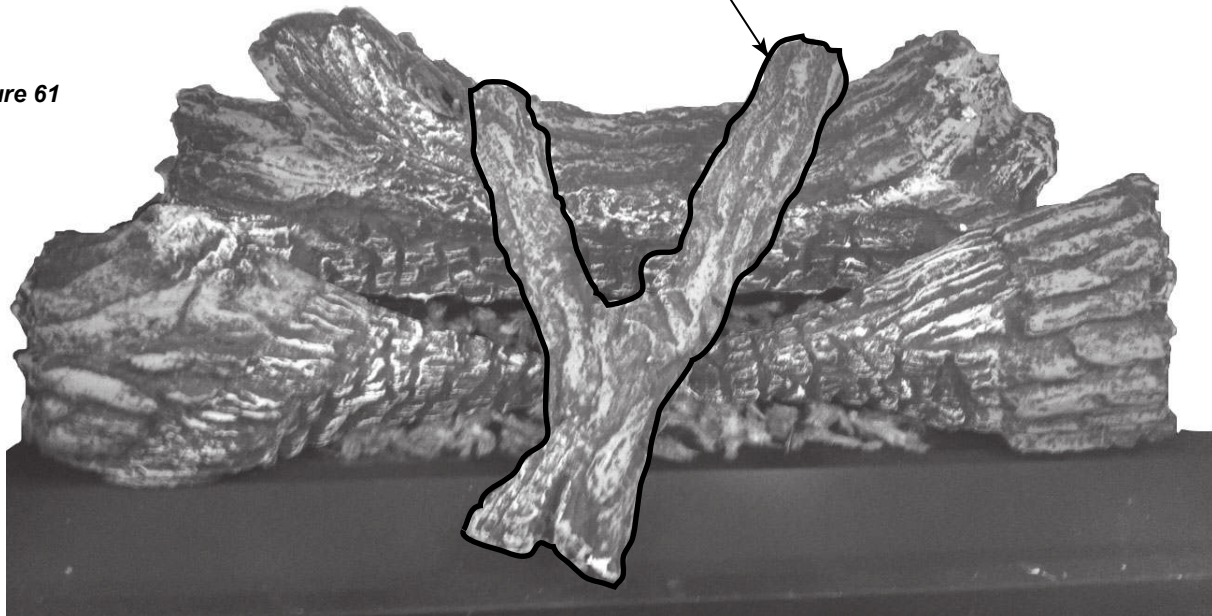

Figure 60
3. Bend the tab in the center front of the false hearth up to a 90° angle. *Figure 60*. Place the top log (#4) by resting the square notch located on the bottom of the log over the tab mentioned above. Rest the top part of the log on the flat areas of the rear log. *Figure 61*